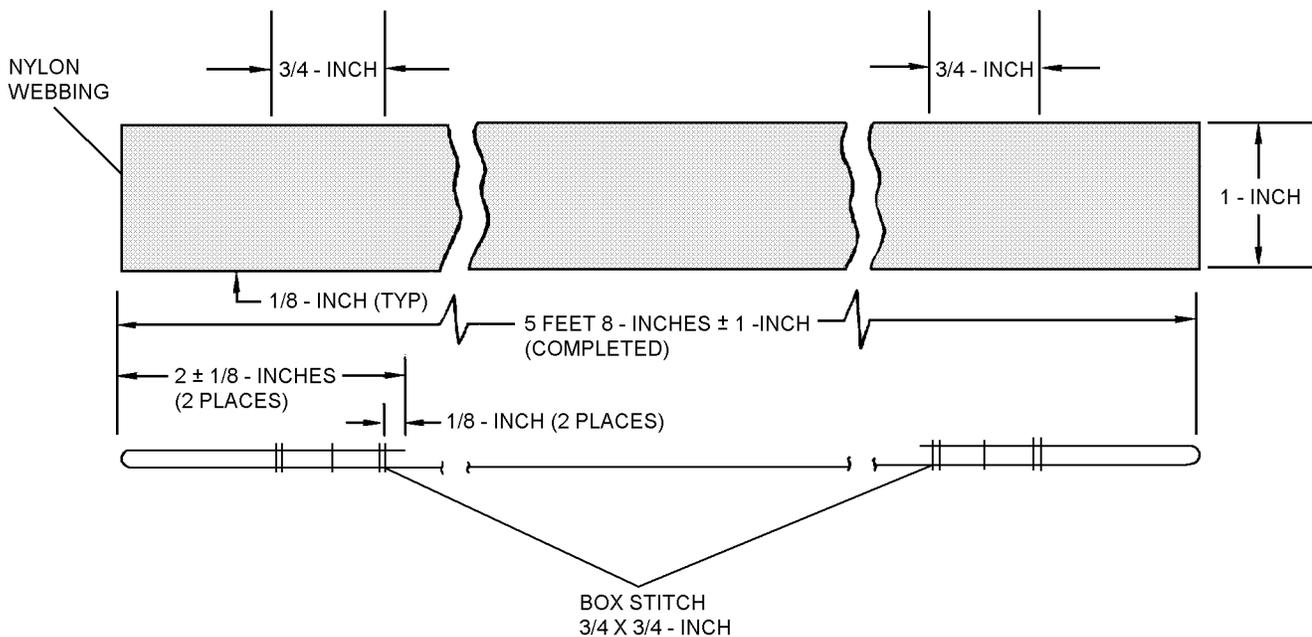

Figure 6-9. Tether Line Assembly
1. Fold webbing to dimensions shown in figure 6-9, and stitch as shown using size E nylon thread (V-T-295, Type II), 8 to 10 stitches per inch. Backstitch a minimum 1/2 inch.